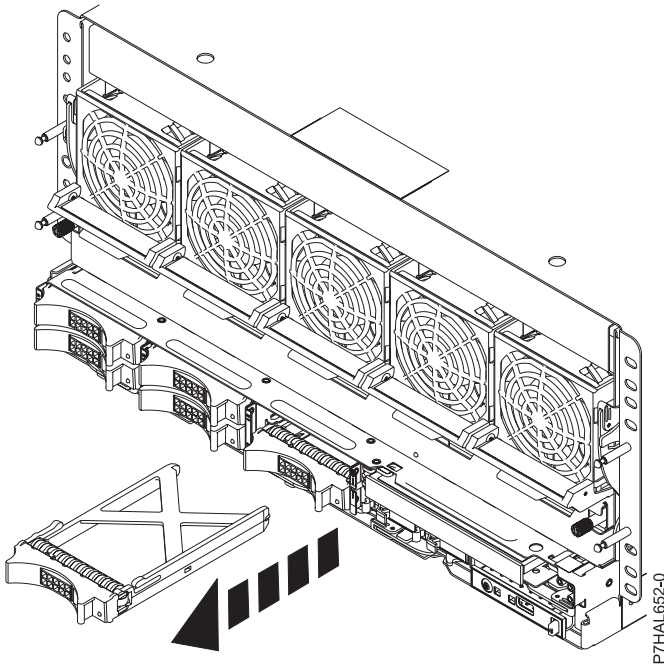

Figure 29. Removing a disk drive filler from the system
2. Hold the filler handle (A) and pull out the disk drive filler from the slot, as shown in Figure 29.